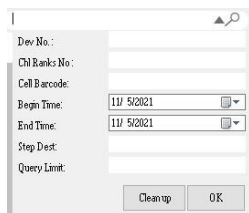

Figure 4-3 Search criteria setting
- Drop-down menu for search criteria: Click to display the drop-down list of search criteria and enter relevant search information, as shown in Figure 4-3: